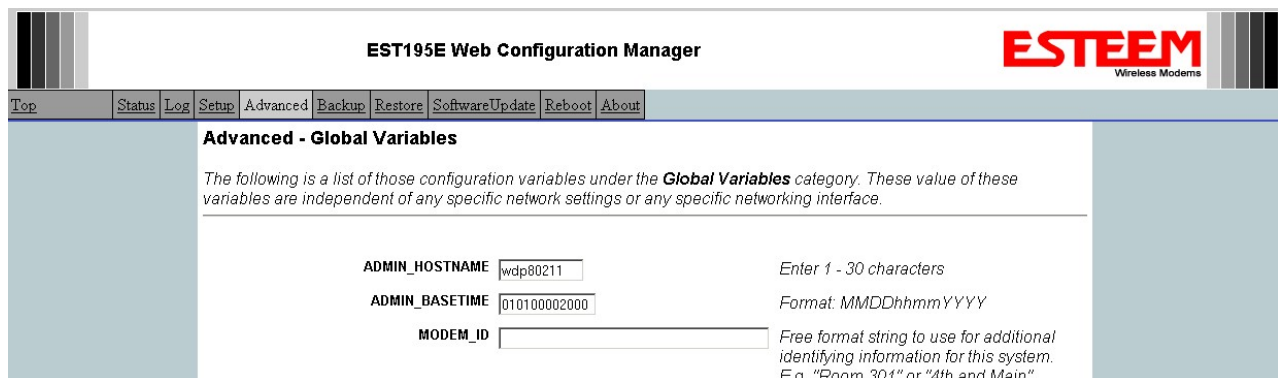

Figure 4: Modem ID Field in Global Variables Screen
2. Scroll to the bottom of the Global Variables window and enter the text you would like displayed in the Modem ID field (Figure 4). When complete, press the *Save Settings* button and the *Commit Changes* button on the next screen to save the name to the 195Ea.